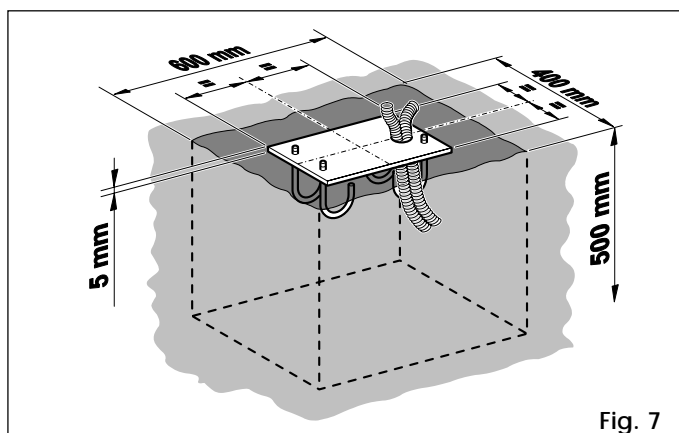

Fig. 7
- 2) Prepare a foundation plinth as shown in Fig. 7 (for soft ground).